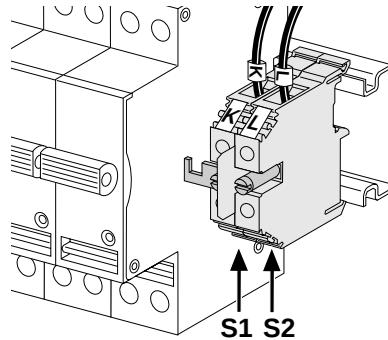

Fig. 12 Connection of the current circuit
■ For an existing CT (fig. 12) :